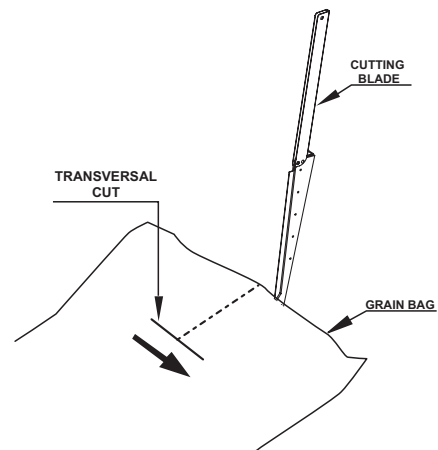
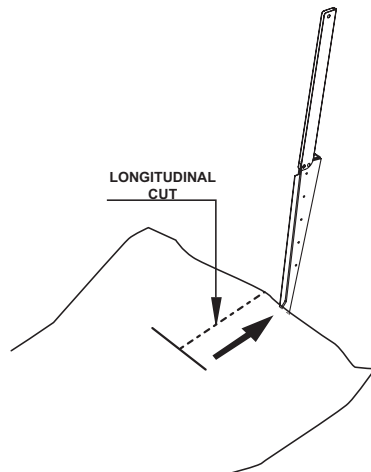

Figure 5.16 - Transversal cut
Figure 5.17 – Longitudinal Cut
- 4) Check once again that the machine's cutting blade is aligned with the cut previously made on the top of the bag. If the cut on the grain bag were not continued normally, the extractor would be subjected to excessive efforts and the grain bag would run the risk of being torn. If the cutting blade stops cutting, a small transversal (figure 5.16) cut must be made on the grain bag in order to align it with the blade by means of a longitudinal cut as shown in the following figure 5.17.